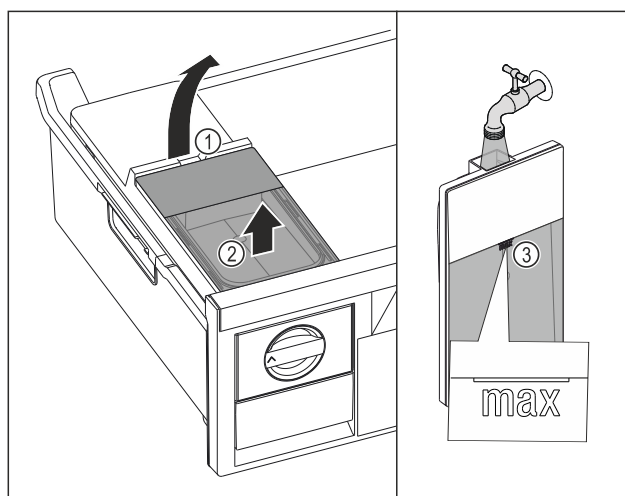

Fig. 67
- Lift the water tank at the recess Fig. 67 (1).
- Remove the water tank by lifting it upwards. Fig. 67 (2)
- Fill the water tank with drinking water up to the mark Fig. 67 (3).